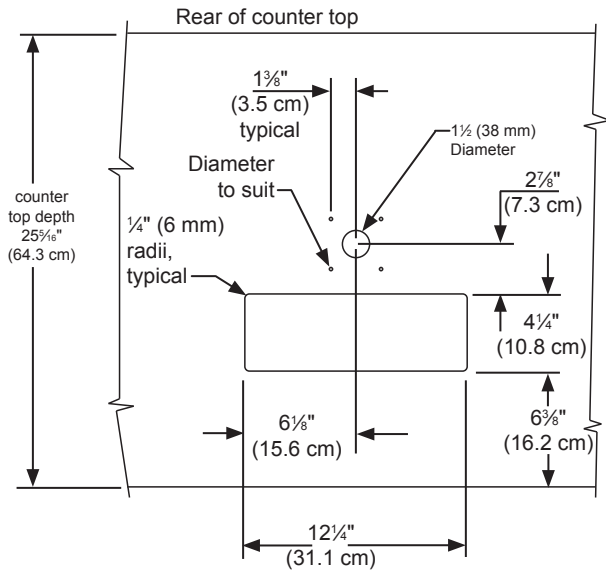

Figure 33
The cutout dimensions shown in Figure 33 are based on a 25 $\frac{5}{16}$ " (64.3 cm) deep counter top. Your counter top may be different than this and require other front to back dimensioning. Refer to the product dimensions on pages 8 and 9 when determining the required dimensions.
- If you are installing your keg refrigerator under a counter you will need to drill 5 holes in the counter top to mount the tower. The first hole is a 1 $\frac{1}{2}$ " diameter hole located at the center of the tower for the beer line, locate approximately 13 $\frac{1}{2}$ " (34.3 cm) from the front edge of the counter top (based on a counter top depth of 25 $\frac{5}{16}$ "). Next drill the 4 tower mounting holes per the dimensions in Figure 33. The hole diameter is dependent on the counter top material and if screw anchors are required. The screws supplied are in the literature pack and are a #10 x 1" type AB stainless steel screw. Mark and cut the rectangular cutout for the drain sump. After the holes are drilled and the keg refrigerator is in place under the counter top feed the beer line through the tower gasket, the 1 $\frac{1}{2}$ " hole in the counter top and the hole in the top of the keg refrigerator. Mount the tower to the counter top with the 4 screws provided. Place the counter top drain sump, from the literature pack, in the rectangular hole with the radius cutout to the rear around the tower and place the grate in the sump.